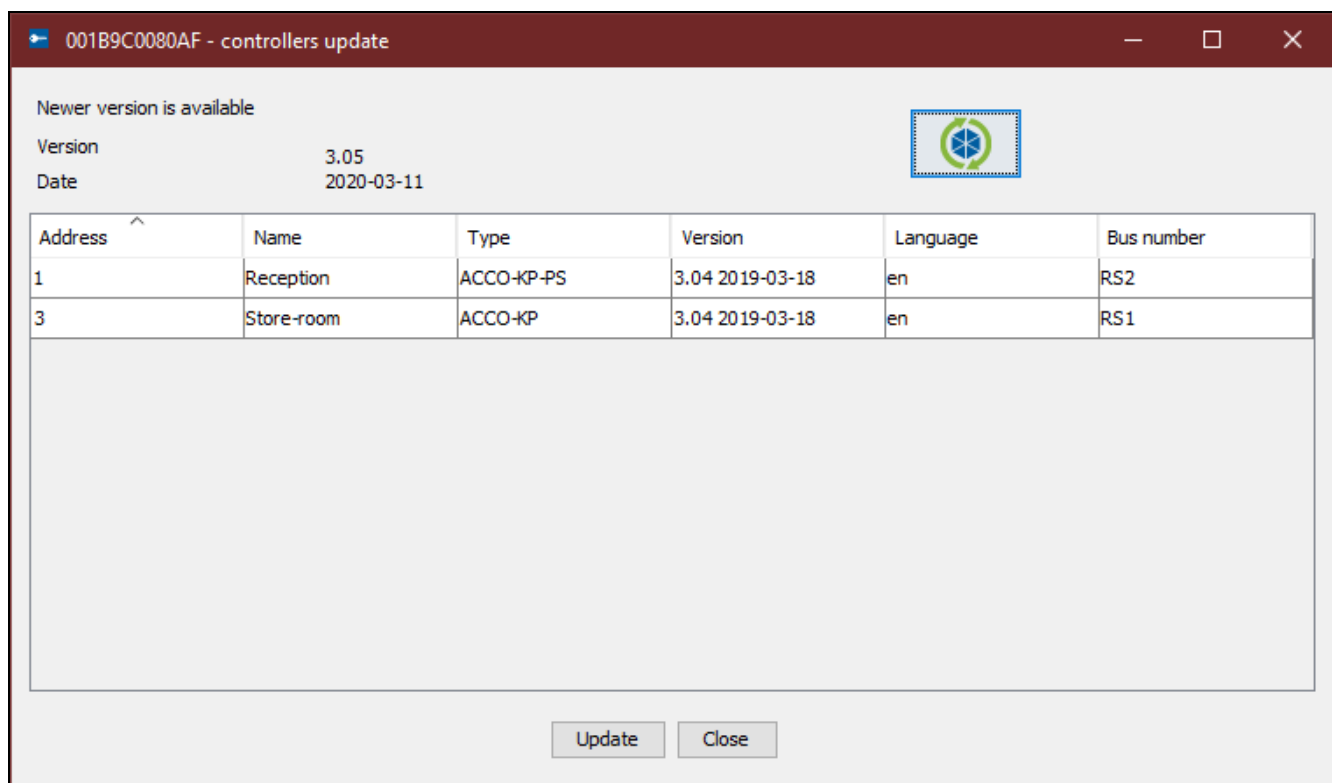

Fig. 23. Controller firmware update window.
4. A window will open with the current firmware version of all selected devices, as well as information on the new available version (see Fig. 23).